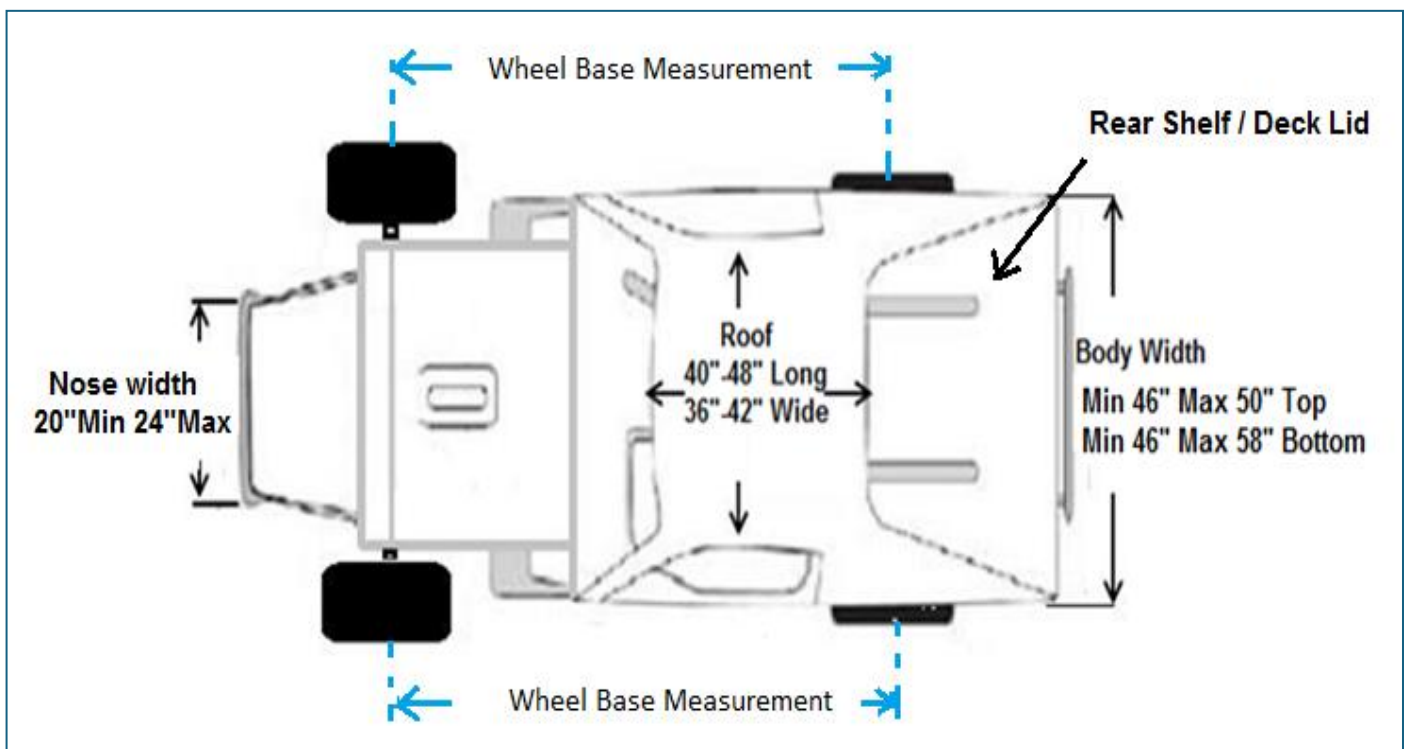

Figure 4
- **Deck Lid** means the horizontal flat panel behind the rear hoop that covers the differential and fuel tank. (Figure 4)
- 9.1 Roof panel length must be between 40 inches min to 48 inches max (No tolerance). Roof panel width must be 36 inches min to 42 inches max (No tolerance) (Figure 4). Sail panels are not part of the roof panel measurements.